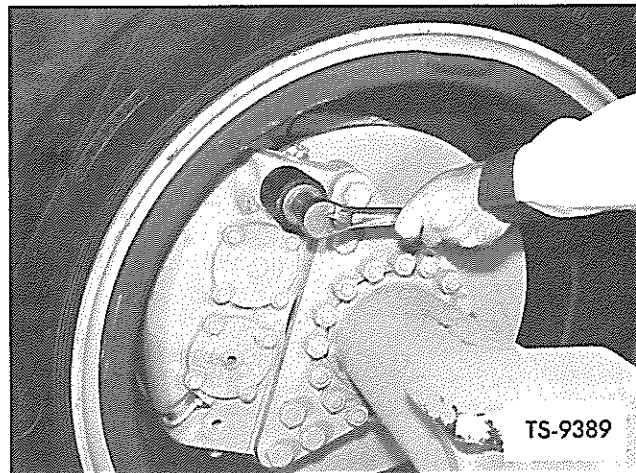

Fig. 5. Loosen Unlocked Pin
3. Place pipe coupling over end of unlocked pin. Cover open end of coupling with the two large flat washers. Insert bolt in drilled and tapped hole on end of unlocked pin and turn in a clockwise direction with a wrench to loosen unlocked pin as shown in Figure 5.